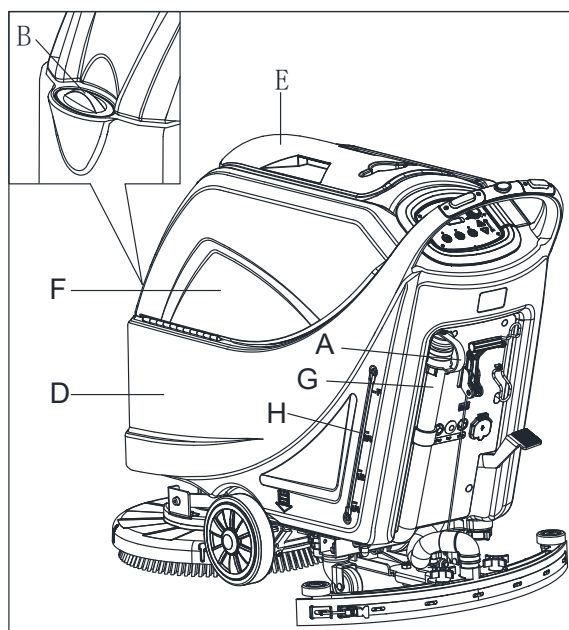

Figure 7
1. Open the water inlet cover (B, Figure 7).